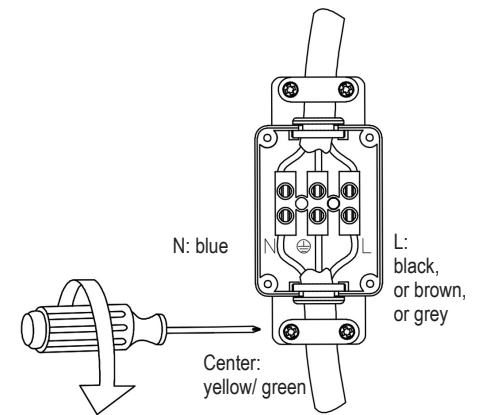

fig. 2
fig. 2: Prepare the cable in according to statutory regulations. Feed your underground cable through the cable gland ① and connect it in the junction box ② according to the marking. Make sure the cable is properly sealed. Tighten the 2 screws of the strain relief ③.